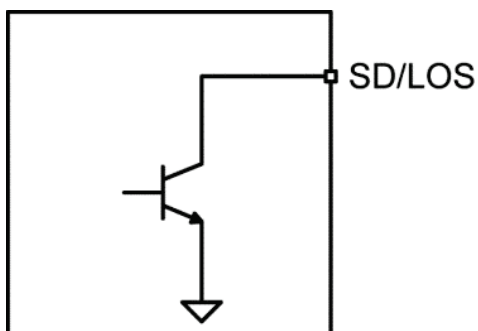

Figure 4. Typical SD/LOS Output Structure
The SY88073L generates a user-selectable (SD/LOS_SEL pin) signal detect (SD) or loss of signal (LOS) open-collector TTL output, as shown in Figure 4. LOS is used to determine whether the input amplitude is too small to be considered as a valid input. LOS asserts high if the input amplitude falls below the threshold set by SD/LOSLVL and de-asserts low otherwise. LOS can be fed back to the JAM input to perform the SQUELCH function and to maintain output stability under a LOS condition. JAM de-asserts the true output signal low without removing the input signals. Typically, 4dB LOS hysteresis is provided to prevent chattering.